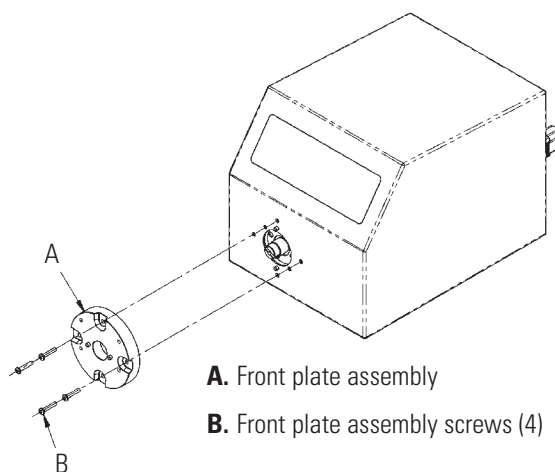

Figure 4-4. Shaft Seal Inspection
2. Remove the four (4) screws (see Figure 4-4, Item B) that hold the front plate assembly (see Figure 4-4, Item A) to the drive, and pull the front plate assembly off the drive. #8-32 screws may be installed in the pump-mounting holes to provide handles for pulling the plate assembly off. Retain Item B screws for Step 8. DO NOT substitute screws.
8. Slide the front plate assembly back over the shaft and onto the locating pins, in the orientation desired. (4 configurations, each 90 degrees of rotation apart, are possible). Reinstall the four (4) screws, removed in step 2 (see Figure 4-4).